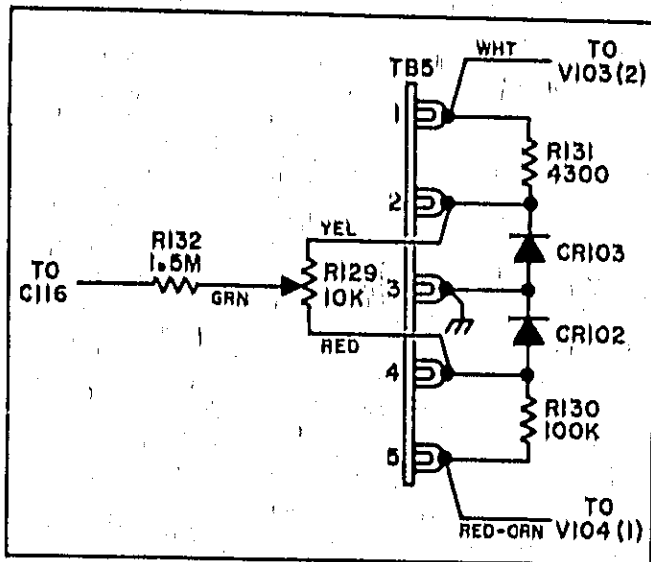

Figure 4. Wiring Diagram of Zero Adjust Control.
4. Connect a yellow wire from pin 2 and a red wire from pin 4 of TB5 (see Figure 4) through the rubber grommet installed in Step 3 and connect a wire to each of the outer arms of the Zero Adjust (R129).
6. Refer to Figure 4. Install R130, R131, CR102, and CR103. Connect a white wire from pin 1 of TB5 to pin 2 of V103 and connect a red/orange wire from pin 5 of TB5 to pin 1 of V104.